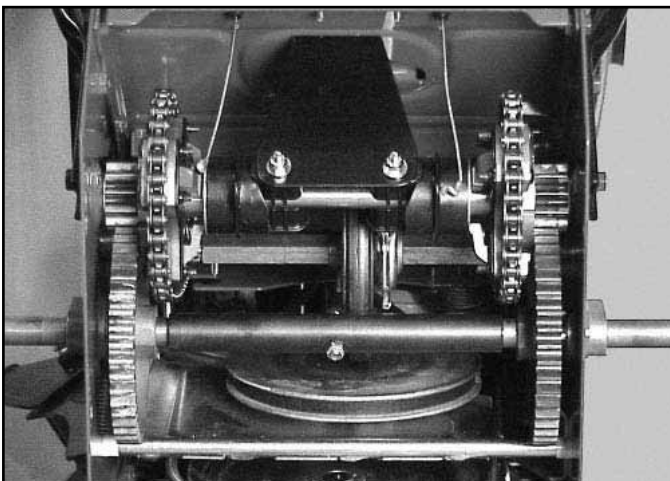

Fig 166 MVC-2207X.jpg
18. Route the chains around the 32-tooth gear of the clutch assembly (Fig. 166).